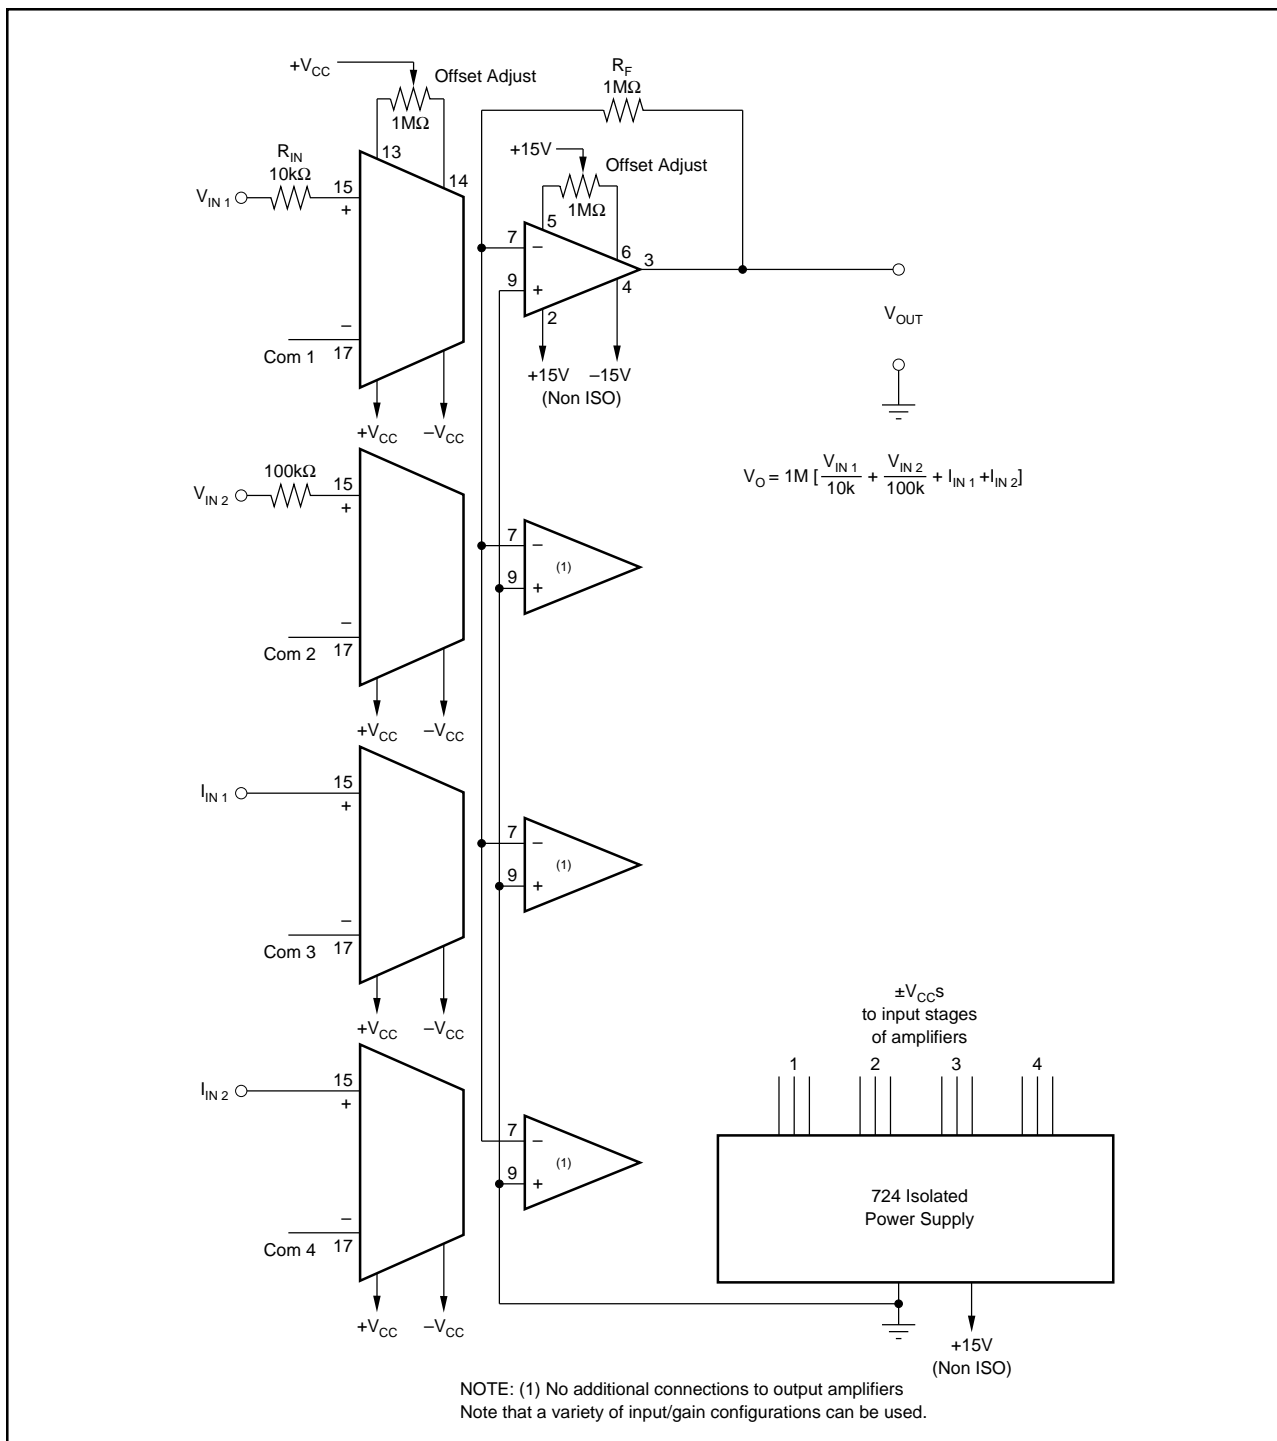

FIGURE 17. Four-Port Isolated Summing Amplifier (Unipolar).
**There are two major sources of offset error:** offset voltage and offset current.  $V_{\text{OSI}}$  and  $V_{\text{OSO}}$  of the input and output amplifiers can be adjusted independently using external potentiometers. An example is shown in Figure 17. Note that  $V_{\text{OSO}}$  (500μV, max) appears directly at the output, but  $V_{\text{OSI}}$  appears at the output multiplied by gain ( $R_F/R_{\text{IN}}$ ). In general,  $V_{\text{OS}}$  is small compared to the effect of  $I_{\text{OS}}$  (see Example 1). To adjust for  $I_{\text{OS}}$  use a circuit which intentionally unbalances the offset in one direction and then allows for adjustment back to zero.